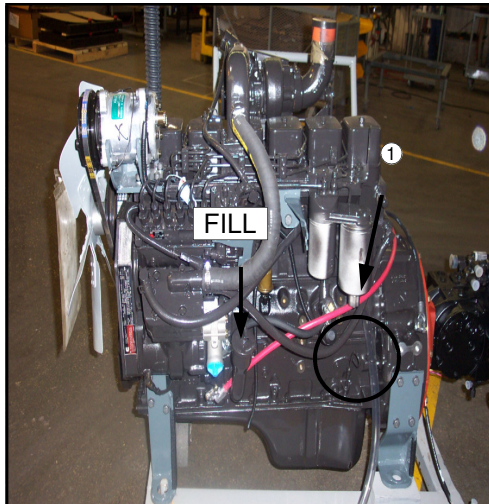

FIG 56-1
**OIL LEVEL** - The engine oil level dipstick is located on the left-hand side of the engine (fig. 56-1, item 1). Never operate the engine with the oil level below the “L” (low) mark or above the “H” (high) mark. Wait at least five minutes after shutting off the engine to check the oil level; this allows time for the oil to drain to the oil pan. Check the engine oil level daily.